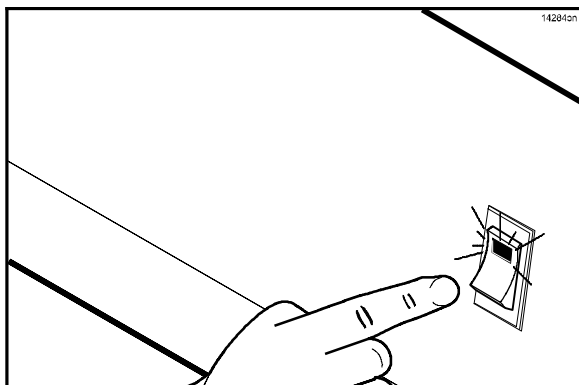

Figure 22
1. Place the fan interlock switch in the ON position. The controller will display the message "OFF". (See Figure 22.)